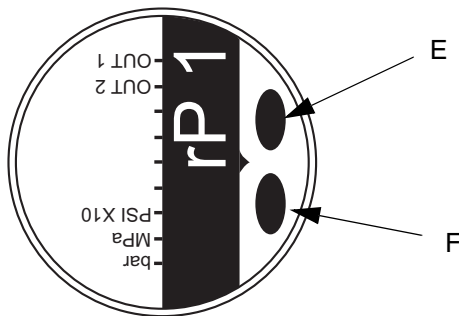

FIG. 4
- Enter the set up mode by pressing button (F). Set point 1 (SP1) will display. See FIG. 4.
- Press button (F) again to display the reset point (rP1).
- Press and release button (E) to display the current pressure reset point. **The actual psi value is the number displayed times 10.**
- To change the reset point press and hold button (E) until the desired psi number appears.